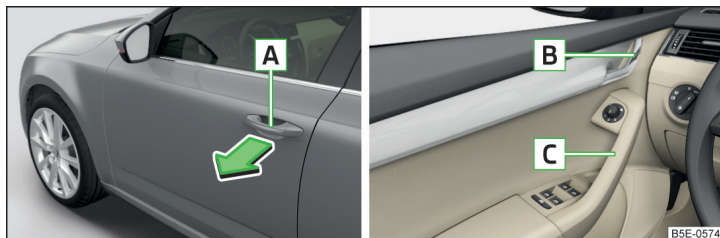

Fig. 36 Door handle/door opening lever
- To **open from outside**, unlock the vehicle and pull the door handle **A** in the direction of arrow » Fig. 36.